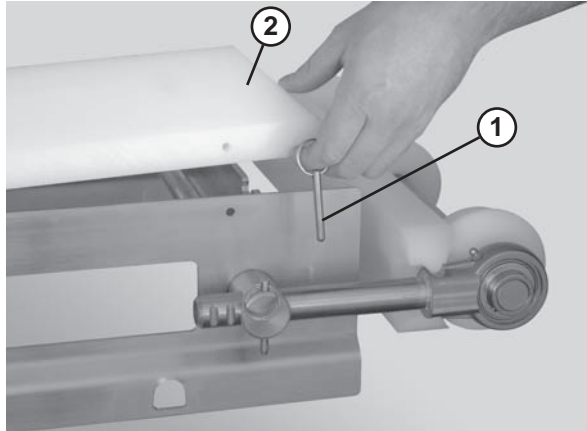

Figure 43
1. Remove the pull pins (Figure 43, item 1) that connect the guides (Figure 43, item 2) to the frame.